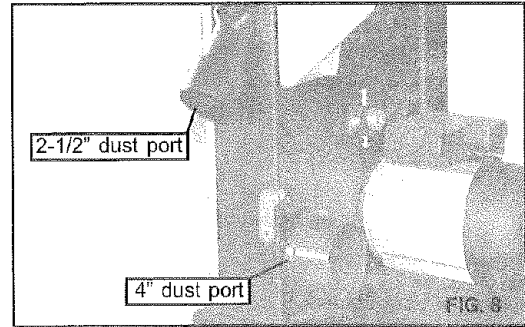

FIG. 8
h. The bandsaw has a 2-1/2" dust port and 4" dust port included. (See Fig. 8) It is recommended that when in use, the bandsaw is connected to a suitable dust collector.